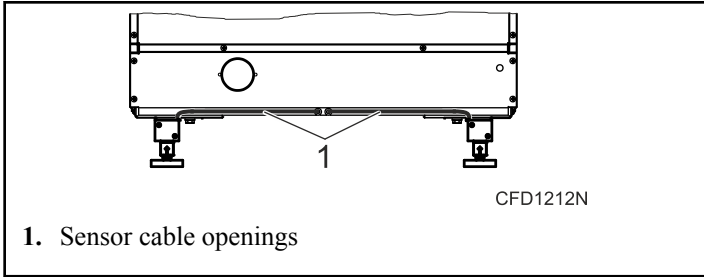

Figure 9
7. Fit the sensor cables into the prepared openings with cable fixtures. Refer to *Figure 9*.